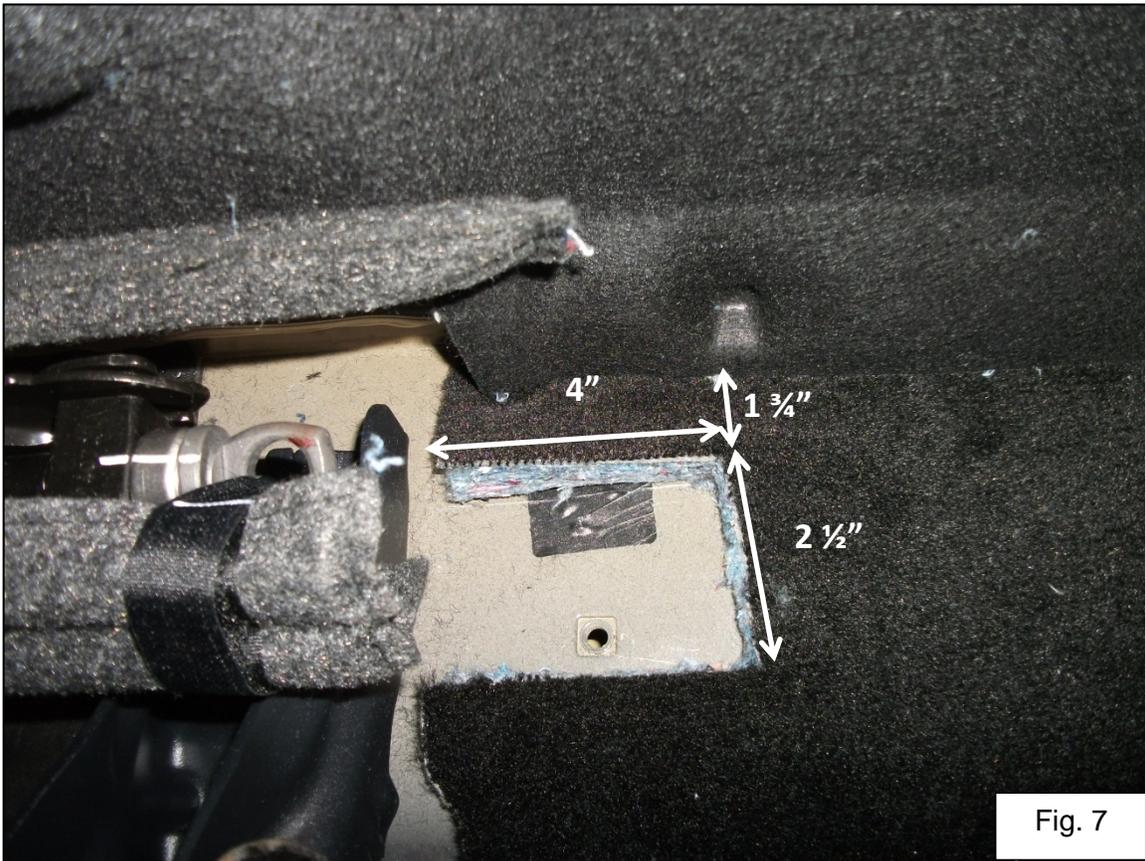

Fig. 8
18. Using the measurements in described in Fig. 7 and Fig. 8, cut the carpet to reveal the lower mounting holes and to allow for the lower subwoofer brackets to sit flat against the floor pan.